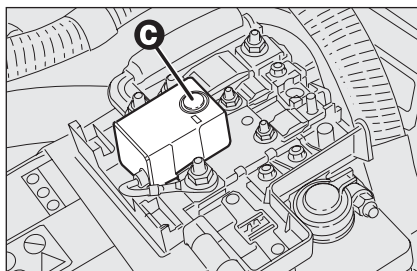

fig. 55
- ☐ press button **C-fig. 55** to reset the power supply.